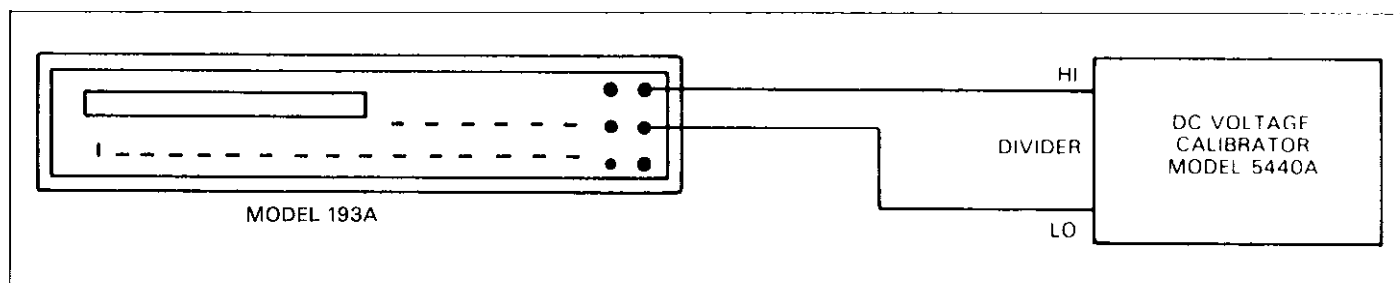

Figure 6-2. DC Volts Calibration Configuration (200mV and 2V Ranges)
2. Connect the DC calibrator to the instrument as shown in Figure 6-2.
- B. Connect the DC calibrator to the instrument as shown in Figure 6-2.
- E. Connect the DC calibrator to the instrument as shown in Figure 6-2.